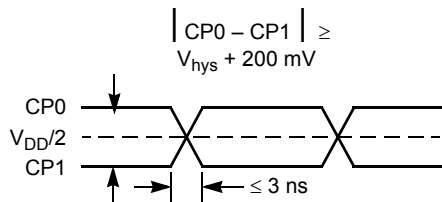

Figure 1. Receiver Input Waveform
9. Receiver input, $V_D = V_{CP0} - V_{CP1}$, at least 200 mV greater than hysteresis levels. See Figure 1.